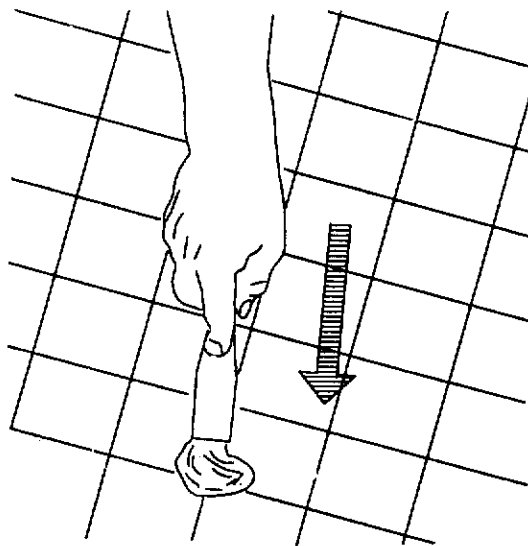

Figure 6-2
- a. Use putty knife to remove gum and other substances stuck to the floor. Always push the putty knife away from your body (see Figure 6-2).